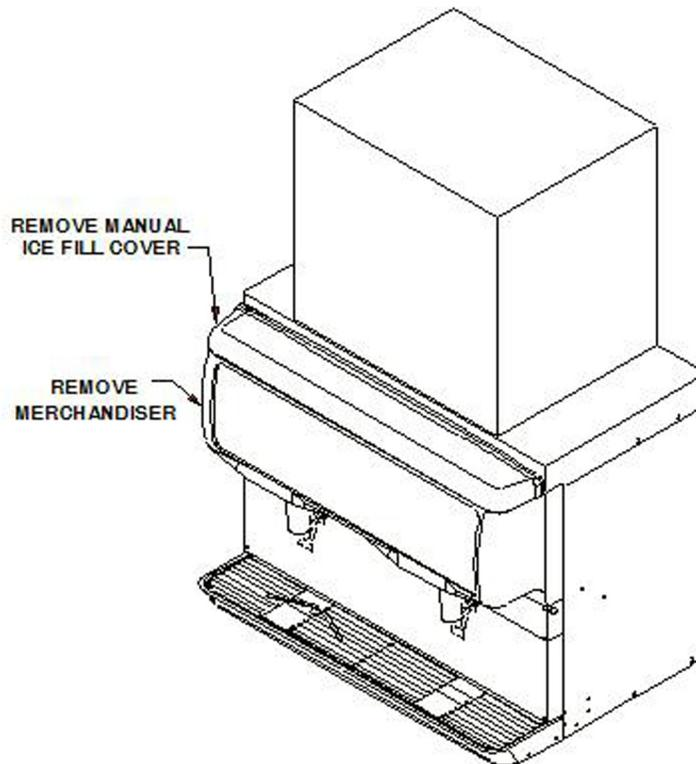

Figure 1.
1. Remove and discard the manual ice fill cover and merchandiser from the dispenser (see Figure 1).